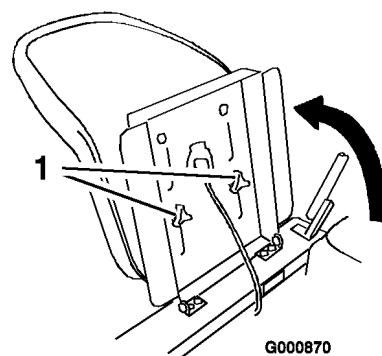

Figure 15
- Raise the seat and loosen the adjustment knobs (Figure 15).